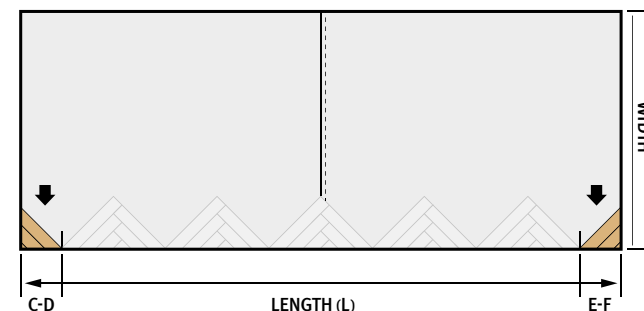

Figure 34
- > Now cut the distances C-D and E-F from the remaining triangle(s), and position them as shown in (Fig 34).